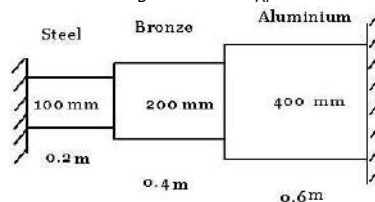

Figure 7
39. A compound bar consist of steel, copper and aluminum bars connected in series is held between two supports as shown in **Figure 7**. When the temperature of the compound bar is increased by 50°C, determine stresses induced in each bar. Consider the two cases i) Rigid supports ii) support yield by 0.5mm. Take $\alpha_s=12 \times 10^{-6}/^\circ\text{C}$, $\alpha_b=19 \times 10^{-6}/^\circ\text{C}$, $\alpha_{Al}=22 \times 10^{-6}/^\circ\text{C}$, $E_s=200 \text{GPa}$, $E_b=83 \text{GPa}$, $E_{Al}=70 \text{GPa}$